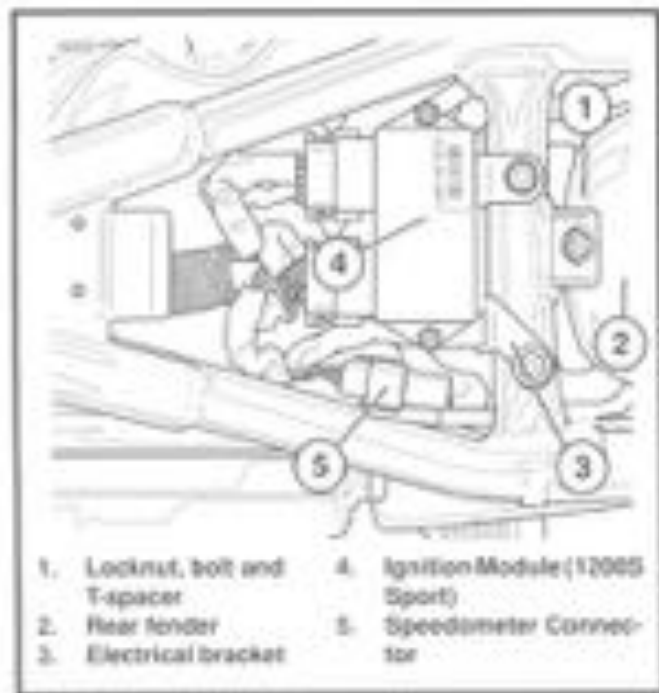

Figure 2-89. Rear Fender Removal
4. See Figure 2-89. Note the three electrical connectors taped together in the seat area. Connector # 5 houses the terminal connectors for the right rear directional, #6 for the left rear directional while the 4-pin connector #4 in the middle houses the tail/brake light connections.
6. See Figure 2-89. Remove two bolts to detach electrical bracket from frame cross member. Slightly move electrical bracket to draw socket side of connector out of seat area.
- See Figure 2-89. Align holes in electrical bracket with weldnuts in cross member of motorcycle frame. Install two bolts and tighten to 6-8 in-lbs (0.7-1.0 Nm) torque.